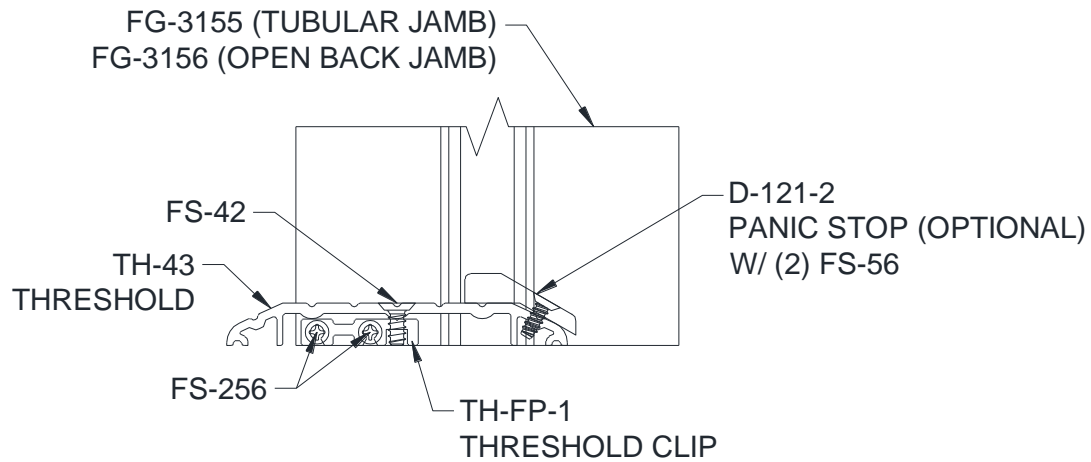

Figure 15: Attaching Threshold Clip to ArmorDefend™ Door Frame
4.4 Attach **TH-FP-1** Threshold Clip to the outer side each Door Jamb with (2) **FS-256** Fasteners. Reference *Figure 15*.
4.5 Set **TH-43** Threshold on top of the **TH-FP-1** Threshold Clips and secure with (1) **FS-42** Fastener in each. Reference *Figure 15*.
4.6 When the optional **D-121-2** Panic Stop is required for Concealed Vertical Rod Panics, attach with (2) **FS-56** Fasteners, as shown in *Figure 15*.